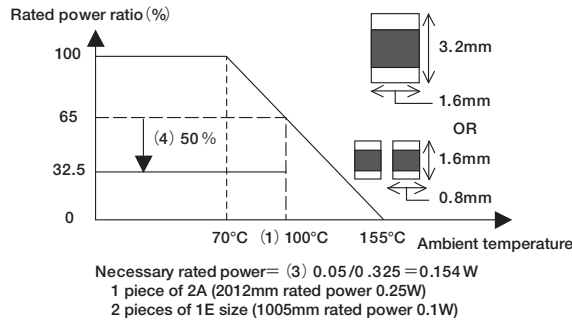

Figure 6. Selection by the traditional derating curve
- (4) Required margin of safety below rating according to designer's internal guidelines: 50%
The required power rating for the resistor using the ambient-temperature derating curve is calculated from conditions (1), (3), and (4). Figure 6 shows this result. For KOA's RK73B resistor series, one piece of 2A size, or two pieces of 1W size will be required.